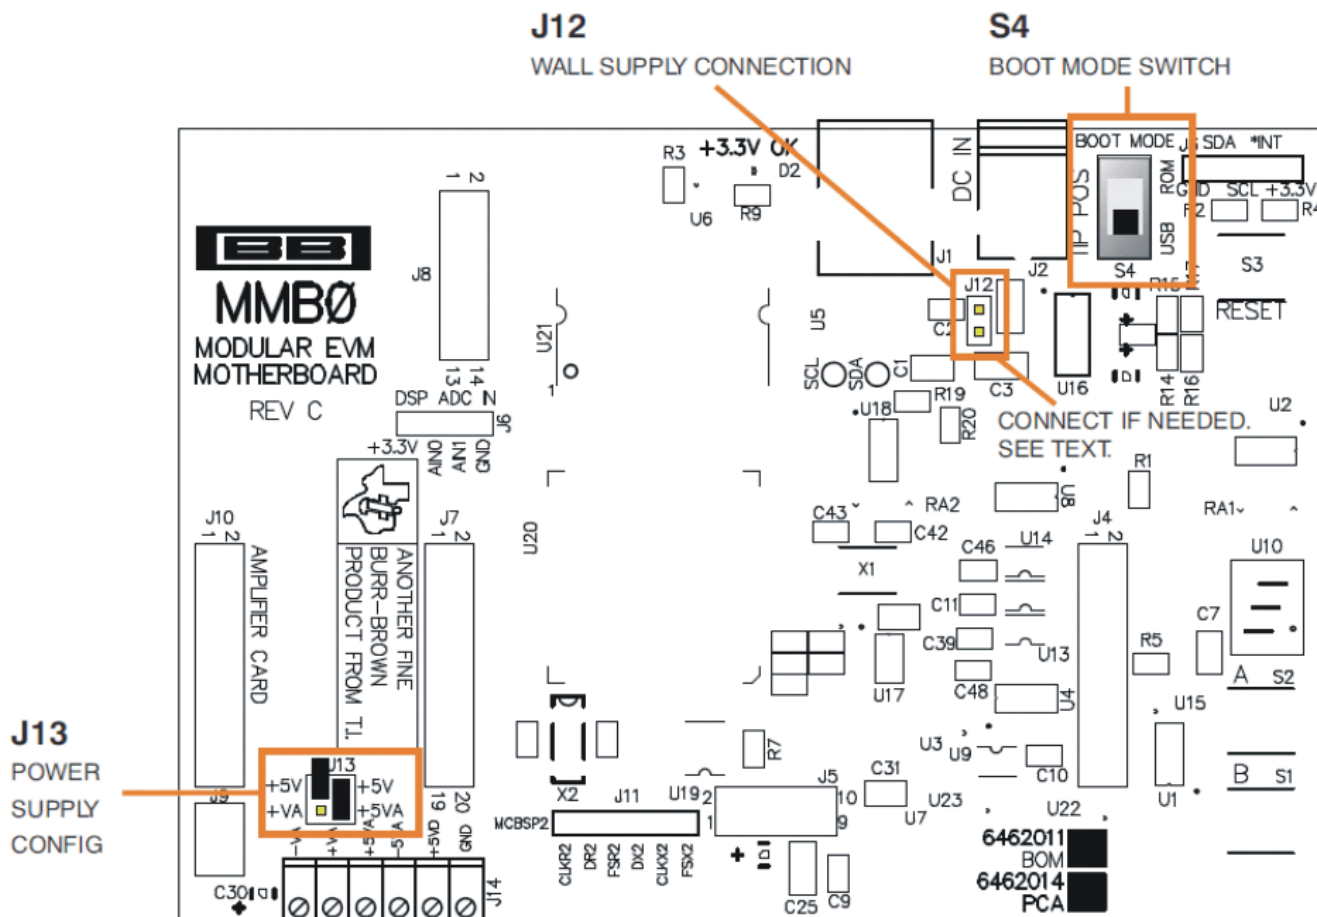

Figure 13. MMB0 Initial Configuration
- Step 2. Set the jumpers and switches on the MMB0 as shown in Figure 13.